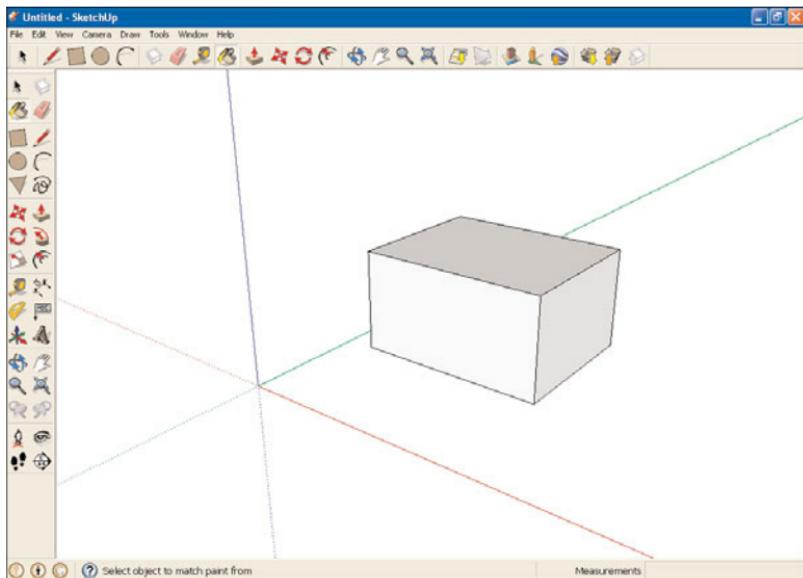
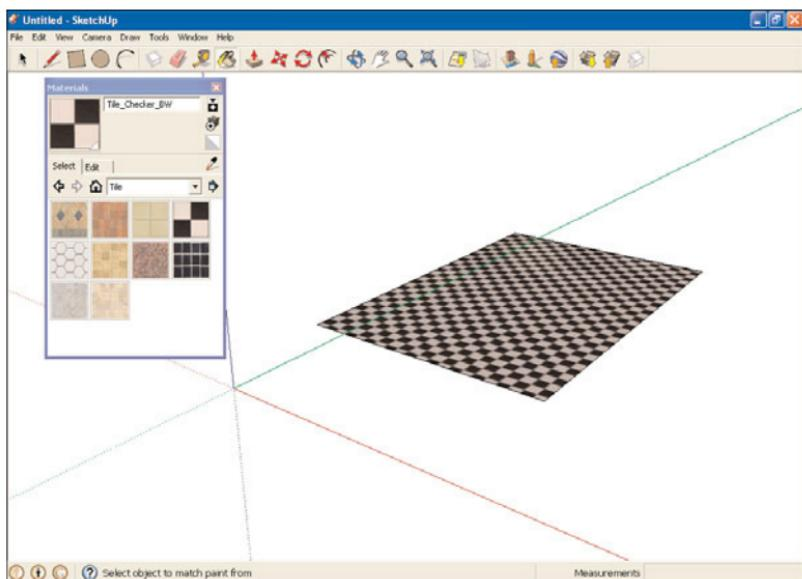

FIGURE 7.1 A cube.
FIGURE 7.5 A tile floor.
For example, take a look at Figure 7.1, where you can see a cube of wood.
- 7.** Click the horizontal rectangle. The rectangle is painted in the texture you've requested, as shown in Figure 7.5.
You might have noticed that SketchUp automatically shades the objects it draws. So, for example, the top of the cube in Figure 7.1 appears dark compared to the cube’s sides. However, now that you’re setting your own textures and painting objects, you may prefer that SketchUp not shade objects automatically. For example, that tile floor in Figure 7.5 appears dark because of automatic shading.